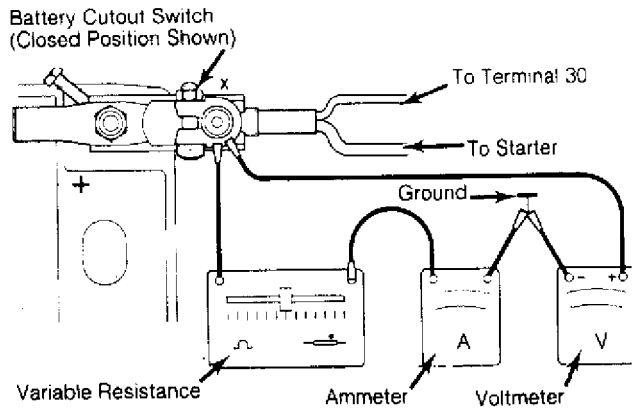

Fig. 1: Alternator Testing Set-Up
1) Disconnect battery cables and install cut-out switch, variable resistor, ammeter and voltmeter. See Fig. 1. Connect ground cable and ensure cut-out switch is in closed position.